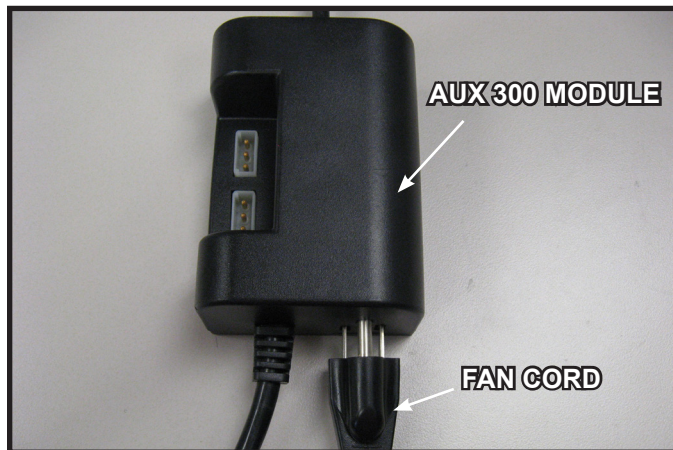

Figure 6. Plug Fan into AUX300 Module
- Insert the 3 prong plug from the fan into the receptacle located in the AUX300 module. See Figure 6.